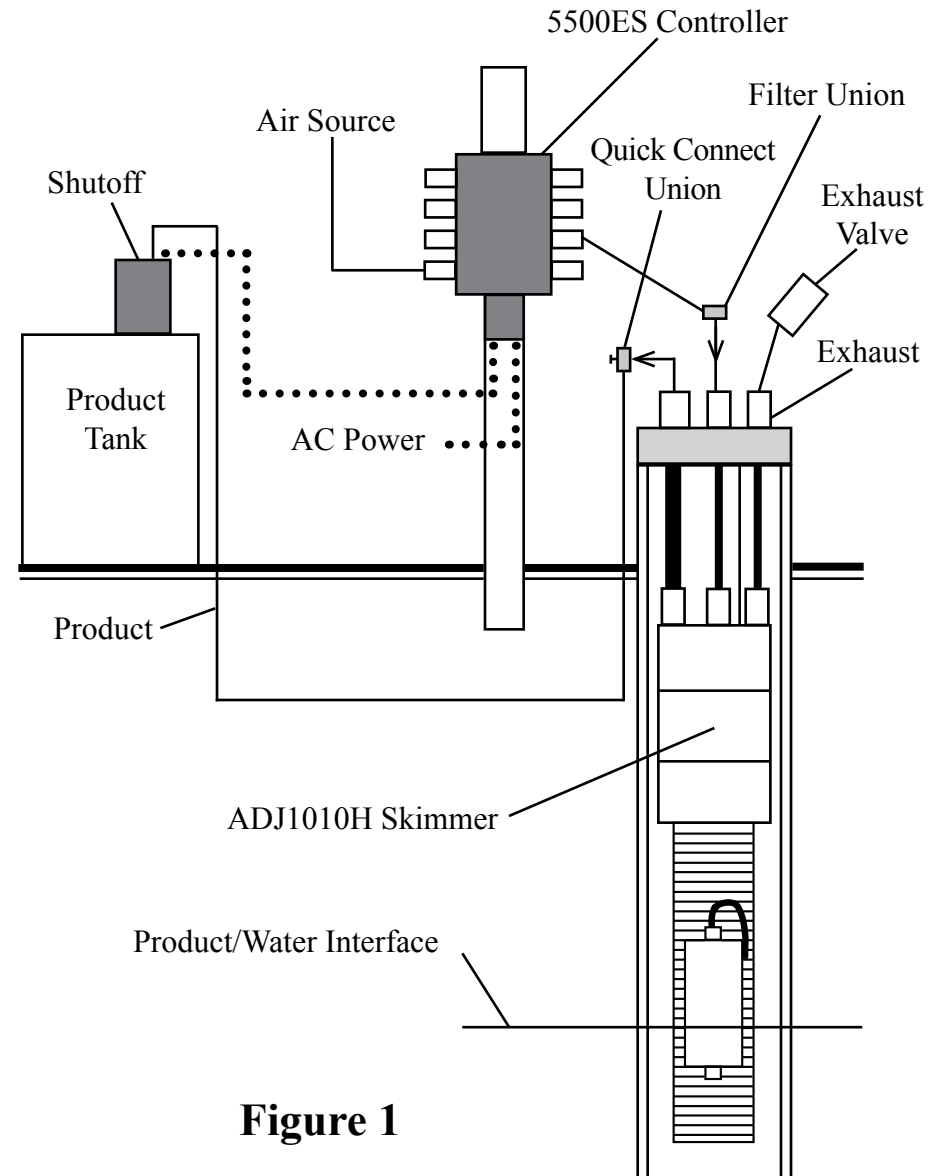
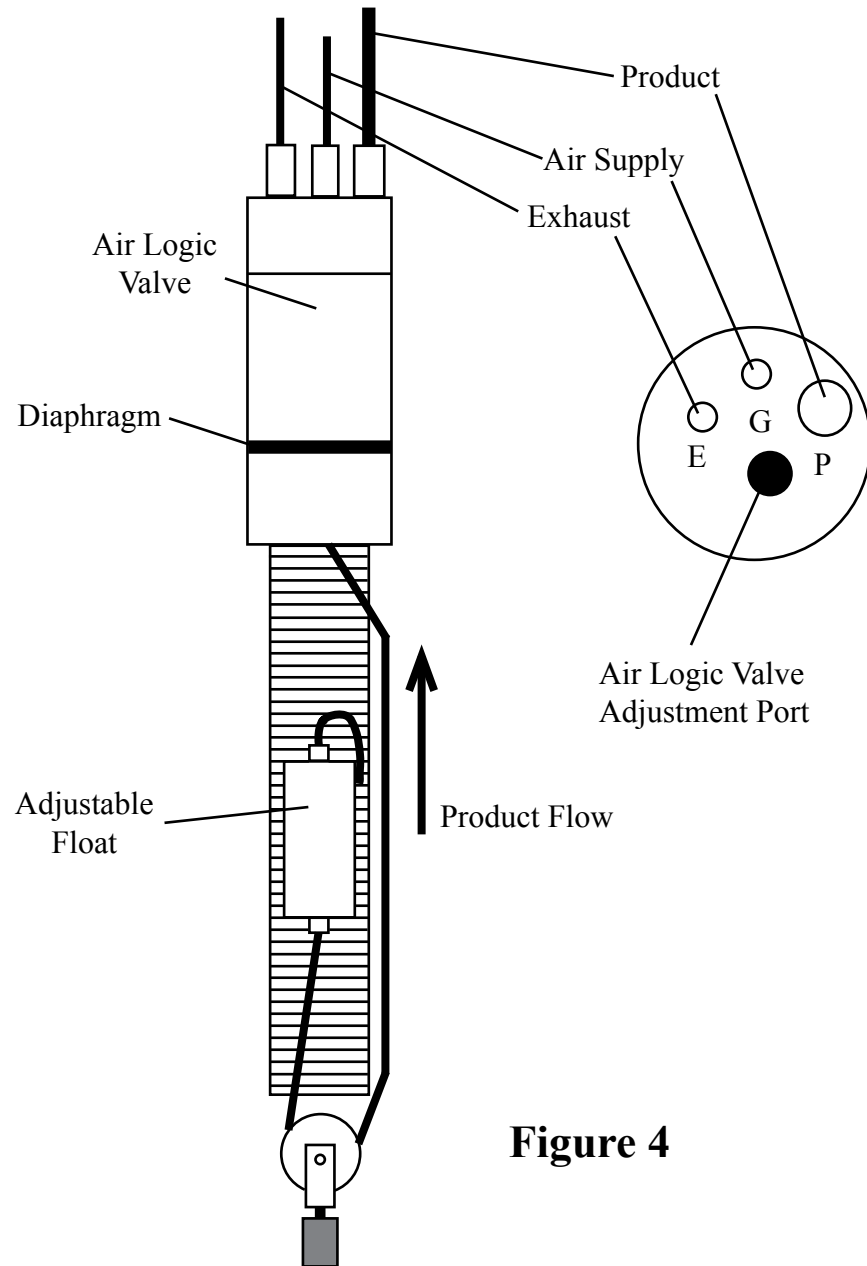

Figure 1
Figure 4
The system (Figures 1 and 2) relates to a heavy oil recovery system for wells four inches in diameter and larger. This system includes: an intrinsically safe ADJ1010H pneumatic Smart Skimmer, with an adjustable float (Figure 4), which removes heavy oil up to 200 feet deep; and a programmable Controller Model 5500ES which operates up to 16 skimmers intermittently, records run time, and has a high level tank shutoff assembly.
STEP 7. Position the skimmer and well cap on the ground near the well. **NOTE:** If the skimmer is over 60 feet deep, use a vented design skimmer. Cut a length of 3/8" OD air supply tubing to cover the distance from the top of the well down to water/product interface, plus 5 feet. Slide enough tubing through the well cap and attach the end of the tubing to the top of the skimmer tube fitting labeled "G" (Figure 4). If the product thickness is greater than 1 foot, position the center of the skimmer screen 1 foot below top of product. If the product thickness is less than 1 foot, position the center of the skimmer screen at the water/product interface.
STEP 8. Cut a length of 1/2" OD product tubing same length as the air supply line. Install 1/2" OD product tubing through the well cap tube fitting labeled "P" (Figure 4). Slide enough tubing through the well cap and attach the end of the tubing to the top of the skimmer tube fitting labeled "P". **CAUTION:** Do not kink the tubing.